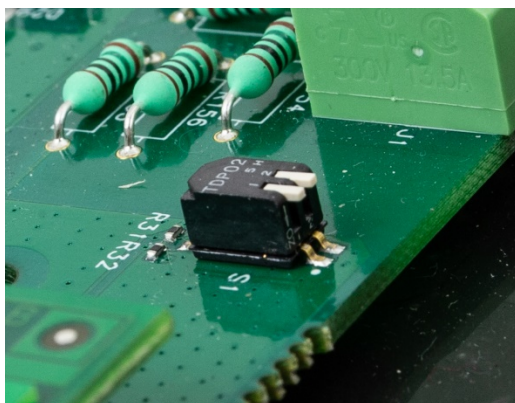

Figure 4-9: Metrology Switches SW1-1 and SW1-2, Both OFF
5. Return SW1-1 and SW1-2 to OFF, as shown in Figure 4-9.